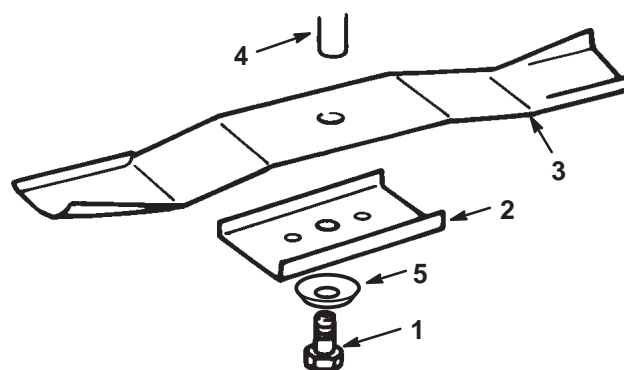

Figure 21
3. Remove the bolt (5/8" wrench), washer, retainer and blade (Fig. 21). A block of wood may be wedged between the blade and the mower to lock the blade when you are removing the bolt.